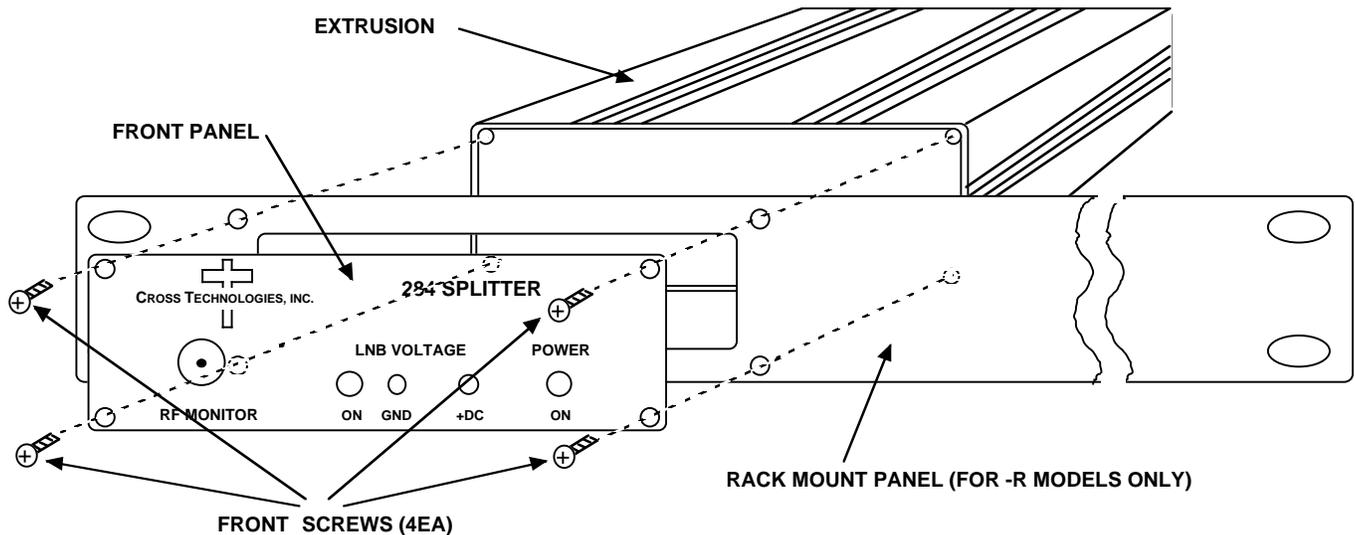

FIGURE 2.5 Rack Mounting The 284-15
2.5 Rack Mounting - The 284-15 is packaged in an aluminum extrusion. The **-R option** is mounted on a 1 3/4" x 19" rack panel that can be mounted to a rack using the four holes at the ends. To mount a 284-15 unit to a rack panel, remove the four screws attaching the front panel to the extrusion, and then (using the same screws) re-attach the front panel to the front of the rack panel with the extrusion (containing the PCB) on the other side of the rack panel (see Figure 2.5).